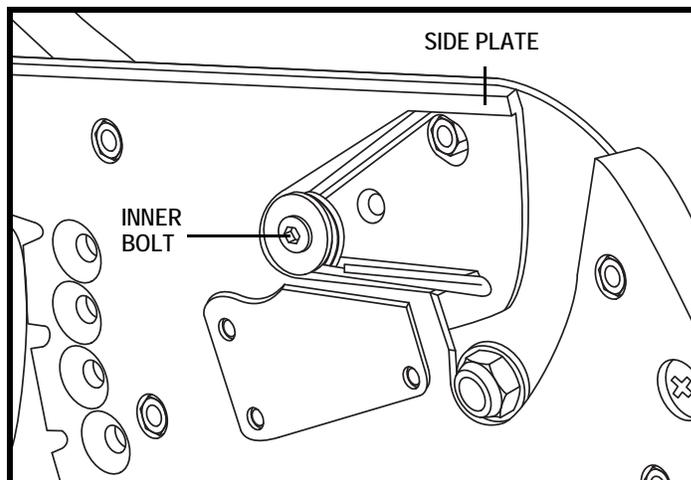

Figure 37. Extension Force Spring located in the Seat Base Side Plate (Kids FAST)
4. Using two 1/8-in. hex wrenches, hold the spring securement bolt on the outside of the seat base and turn inner bolt counterclockwise. Remove bolt and washer. **See figures 37 and 38.**